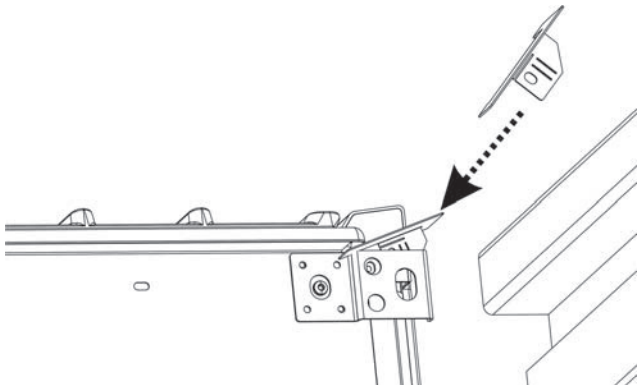

Figure 3: Right side corner cover placement, first step
5. Insert the right corner piece as shown (see Figure 3: Right side corner cover placement, first step).